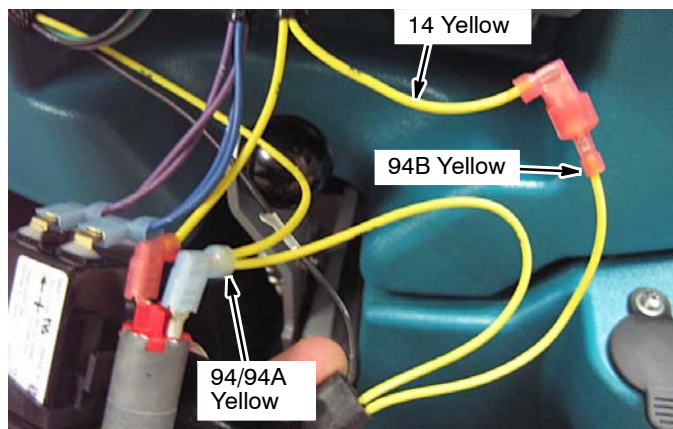

Fig. 30
8. Connect ec-H2O harness wires 94/94A yellow to key switch as shown. Connect 94B yellow to wire 14 yellow. (Figure 30).